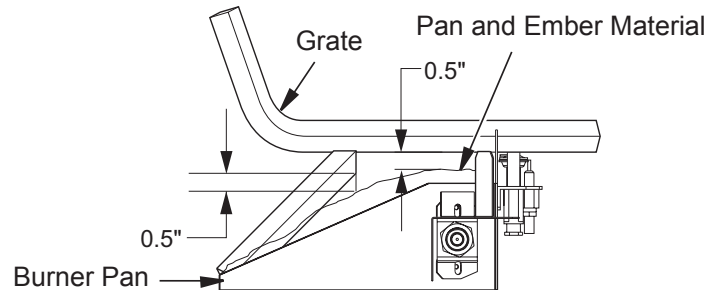

Figure 21 - Pan and Ember Material Clearances (BRT2332TEN/BRT2532TEN Models Shown)
4. Place just enough to cover the entire surface and leave about a 1/2" gap under the lower grate members to allow air to flow (see Figure 21).